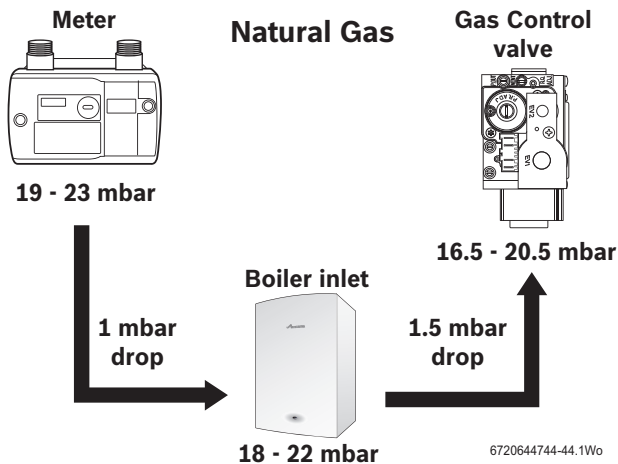
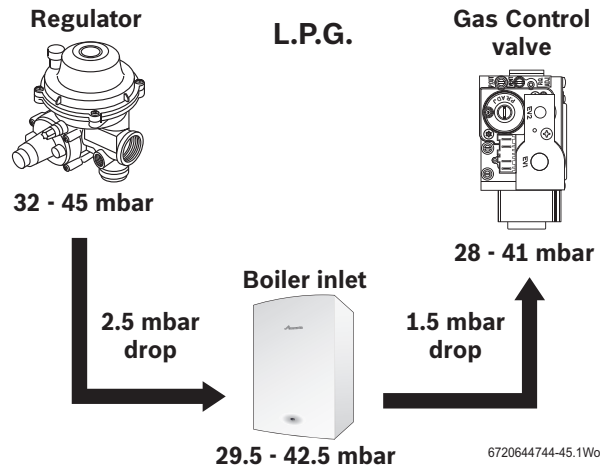

Fig. 41 Natural gas pressures
Fig. 42 L.P.G. pressures
- Press the Performance test button (J) for more than ten seconds and set Central Heating temperature to maximum.
- The Performance test button (J) will illuminate continually and the display (C) will alternate between and the central heating flow temperature.
- ▶ Check the gas supply working pressure at the gas valve conforms to values shown in Fig. 41 or Fig. 42 .
- ▶ If pressure is satisfactory press the Performance test button (J) again and the boiler will return to normal operation.
If the pressure drops are greater than shown in figure 41, then this would indicate a problem with the pipe work or connections within the system.
If the pressure drops are greater than shown in figure 42, then this would indicate a problem with the pipe work or connections within the system.